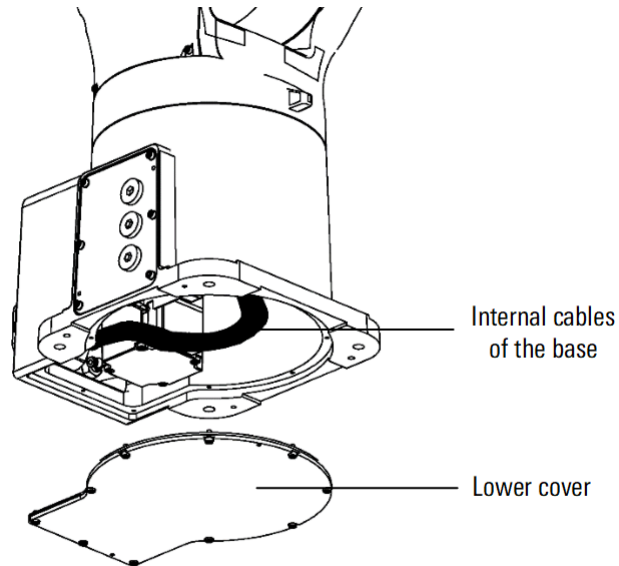

Figure 9-1 Cable maintenance inside the base
Step1. Remove the lower cover, as shown in Figure 9-1, the cables inside the base can be observed.